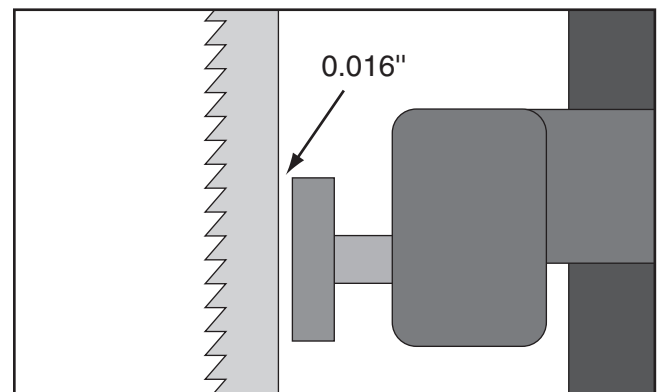
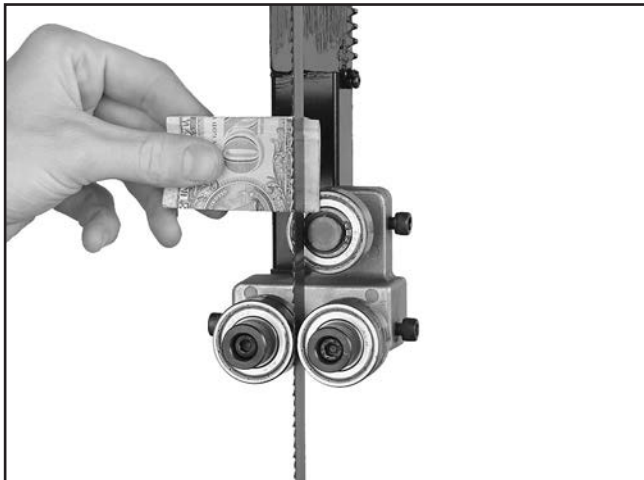

Figure 25. Blade should be aligned approximately 0.016" away from the bearing edge.
Figure 26. Dollar bill folded twice to make an approximate 0.016" gauge.
6. Place a 0.016" feeler gauge between the support bearing and the blade, and position the bearing 0.016" away from the back of the blade as illustrated in **Figure 25**.
Note: For a quick gauge, fold a dollar bill in half twice (four thicknesses of a dollar bill is approximately 0.016") and place it between the support bearing and the blade as shown in **Figure 26**.
6. Place a 0.016" feeler gauge between the support bearing and the blade, and use the adjustment knob to position the bearing 0.016" away from the back of the blade (similar to **Figure 25**) or use a dollar bill (**Figure 26**) instead of a feeler gauge.